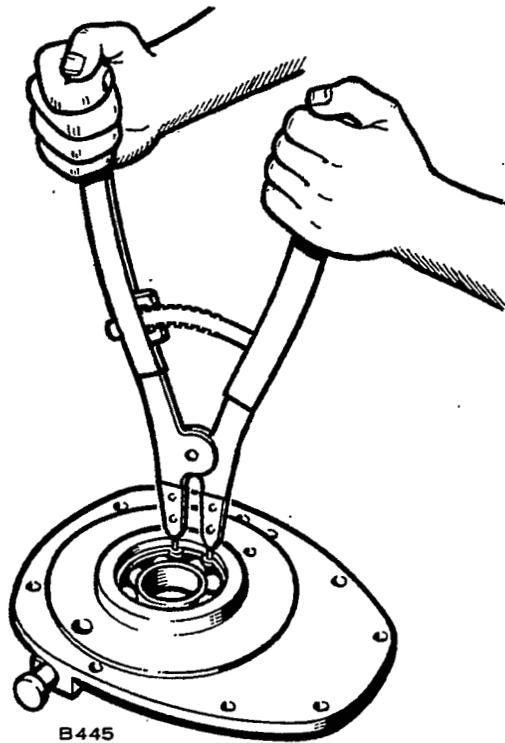

FIGURE 52. GEAR PLATE BEARING REMOVAL
- Remove snap ring and tap bearing through gear box plate, Figure 52.